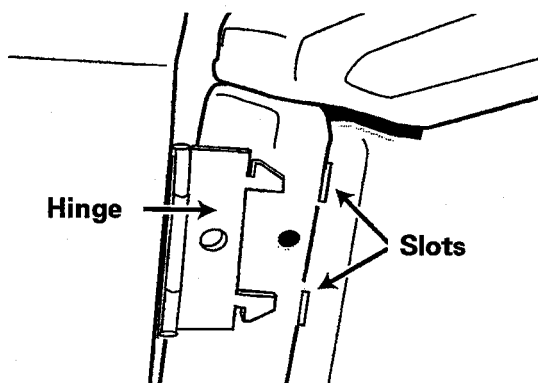

Figure 2-22
1. Open the door and remove the center screw of each hinge secured to the inner flange of the front panel in the door opening, *see Figure 2-22*.